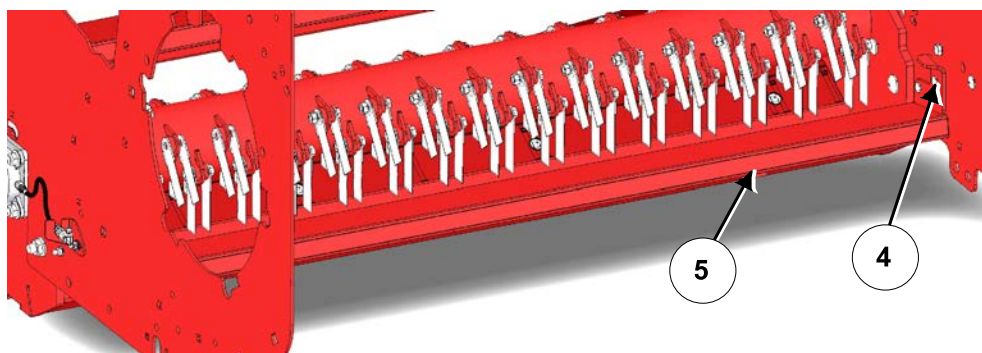

Figure 7: Install the Filler Panel near the Feed Chopper (Flail Drum not shown for Clarity)
7. Install the filler panel (5) between the tub walls, see *Figure 7*.
- Fasten in place with 4 of 3/8" x 1-1/4" carriage bolts and flange locknuts (4).